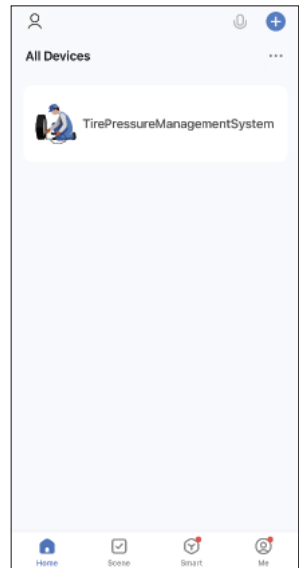

Fig. 9
- 5) Click "+" after finding the device, and click "Finish" after adding the device. **(See Fig. 9)**